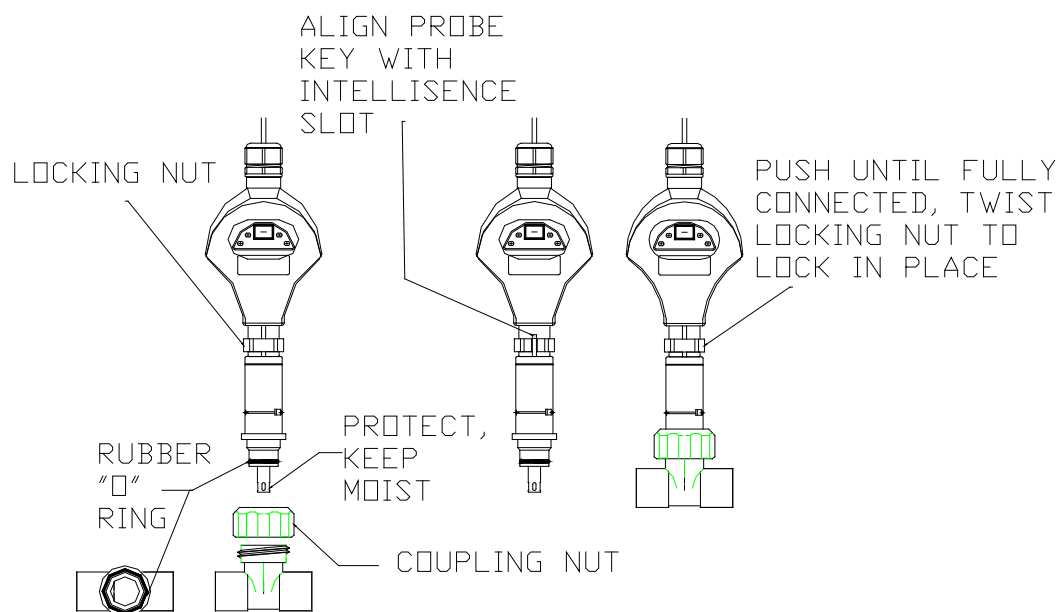

Fig. 3 Diagram of probe IntelliSense installation
- Use supplied cover filled with proper storage solution. (see *Figures 3&5*). See **Section 7 - Maintenance** for more information
- Slip coupling nut over probe. Gently install probe into probe housing on flow assembly. Make sure probe is firmly seated in housing. (*Figure 3*)